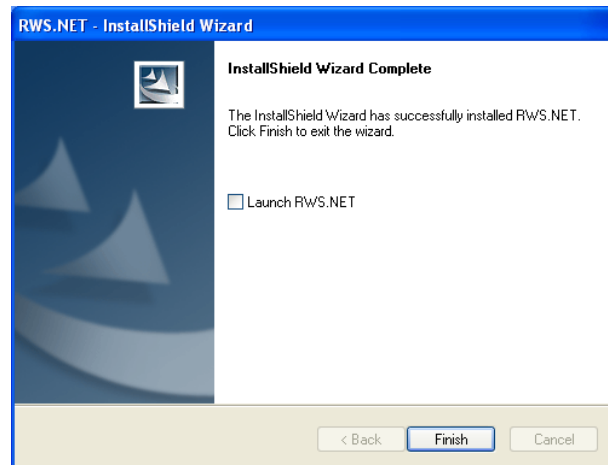

Figure B-11: InstallShield Wizard Complete
- Click **Install** and wait until the *InstallShield Wizard Complete* window indicates the process is complete (Figure B-11).
- Uncheck **Launch RWS.NET** (Figure B-11), and then click **Finish** to exit the installation.